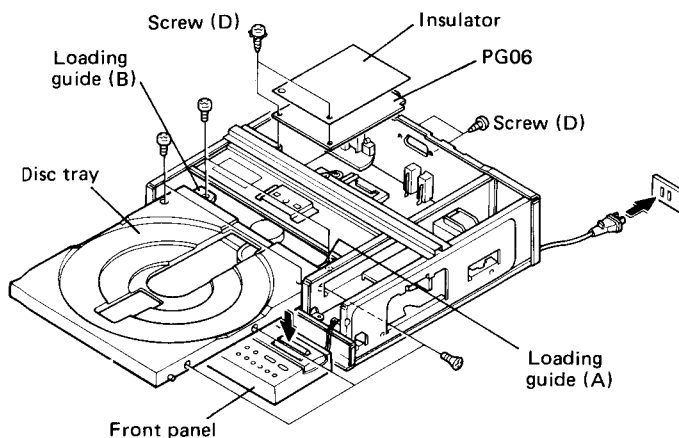
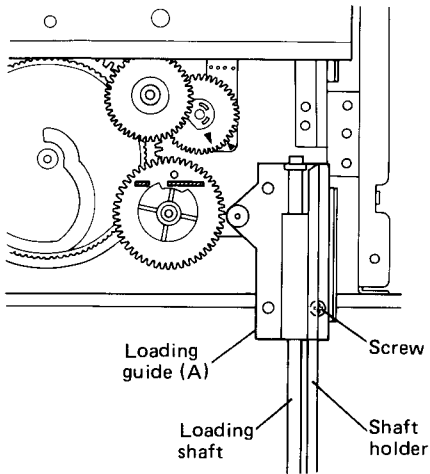

Fig. 2-1
Fig. 3
1. Remove the top cover by extracting screws (C).
2. Remove the RGB assembly (PG06) together with the insulator by removing the screws (D). (Fig. 2-1)
6. Remove the four screws mounting the loading guides (A) and (B). (Figs. 2-1 and 2-3)
7. Push in the disc tray about 7 cm from its fully drawn-out status, then remove the three screws on its right side. In this case, insert a screwdriver from the right side of the unit for removal of the one screw located at the depth. (Figs. 2-1 and 2-3)
8. Detach the disc tray and the loading guide (B) (left one).
9. Remove the rest one screw mounting the loading guide (A) (right one). (Fig. 3)
8. Attach the loading guides (A) & (B) with screws (Figs. 2-1, 2-3), and push the disc tray into the loaded position.